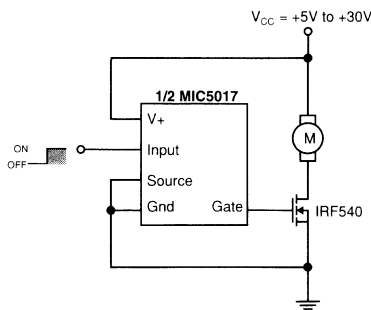

Figure 6: DC Motor Speed Control/Driver
**Variable Supply Low Side Driver for Motor Speed Control** (Figure 6) The internal regulation in the MIC5016/17 supply varies from 5V to 30V, without damaging the internal gate to source zener clamp. This allows the speed of the DC motor shown to be varied by varying the supply voltage.